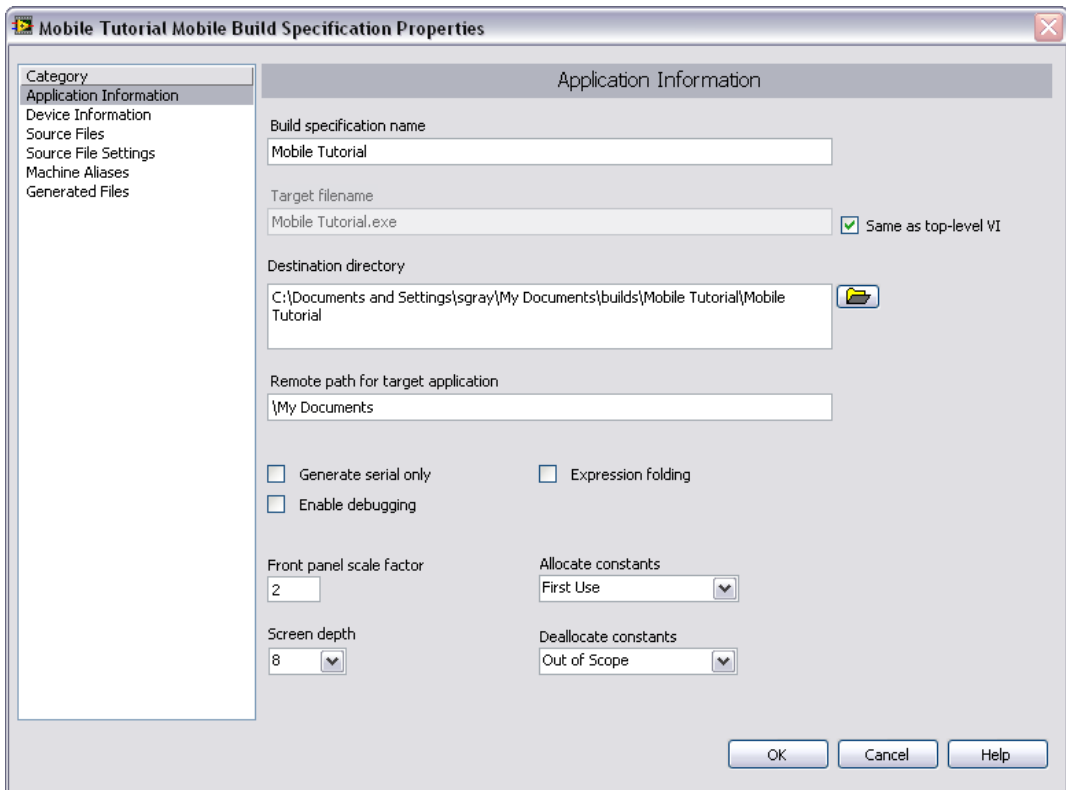

Figure 4. Defining the Application Information
1. Define the settings for the Mobile application as shown in Figure 4.